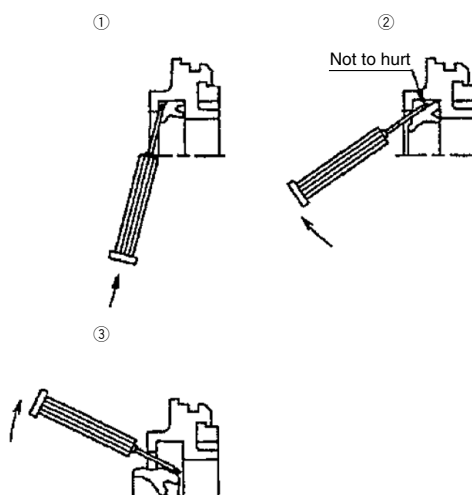

Fig. 2 How to remove rod seal
b. Insert the driver to the collar front to pull out the seal like Fig. 2.